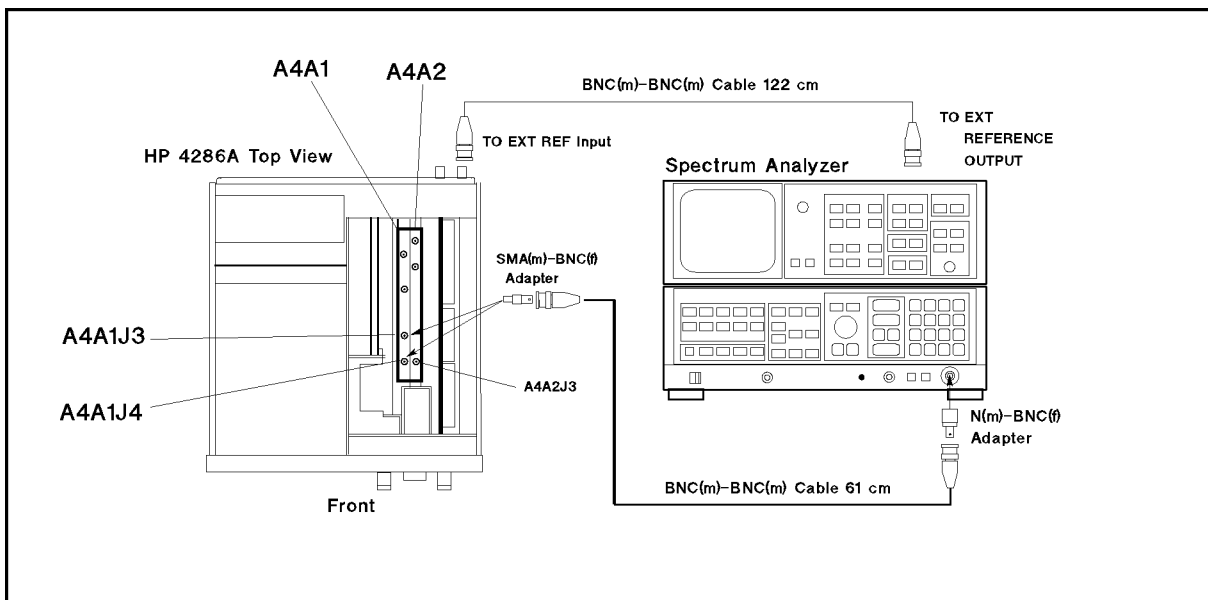

Figure 7-10. 1st LO OSC Signal Test Setup
- Remove the “C” semi-rigid cable from A4A1J3, and connect the equipment as shown in Figure 7-10. In this procedure, connect the spectrum analyzer input to A4A1J3.
- a. Remove the “F” semi-rigid cable from A4A1J4 and A4A2J3, and connect the equipment as shown in Figure 7-10. In this procedure, connect the spectrum analyzer input to A4A1J4.